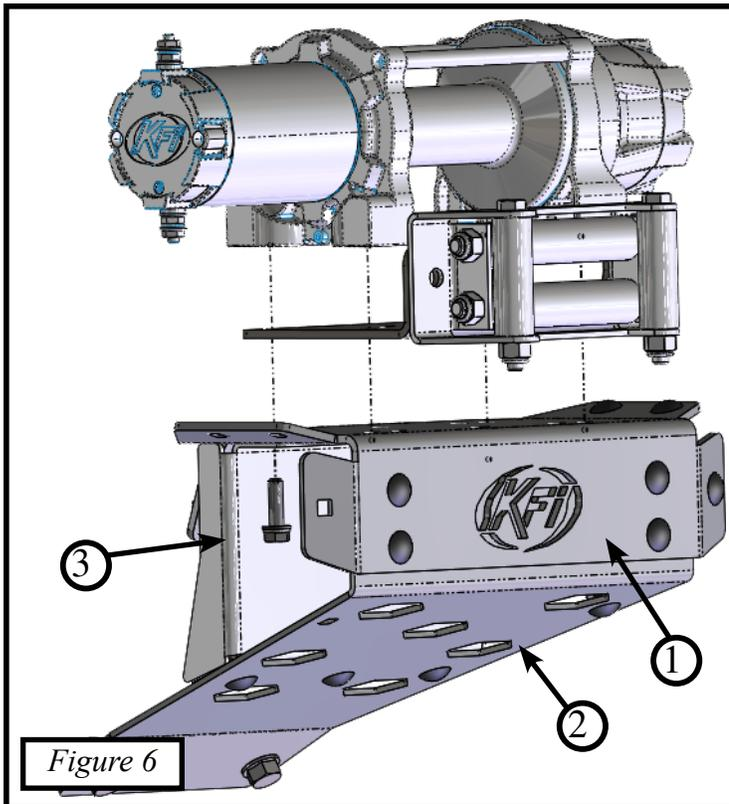

Figure 6
- The bolts will go through the support (3) and winch mount (1) and fairlead mount on the back set of holes only. If your winch did not come with longer M8 bolts use bolts supplied with HK-314. The front bolts will go through the winch mount (1) and fairlead mount Figure 6. Tighten all hardware